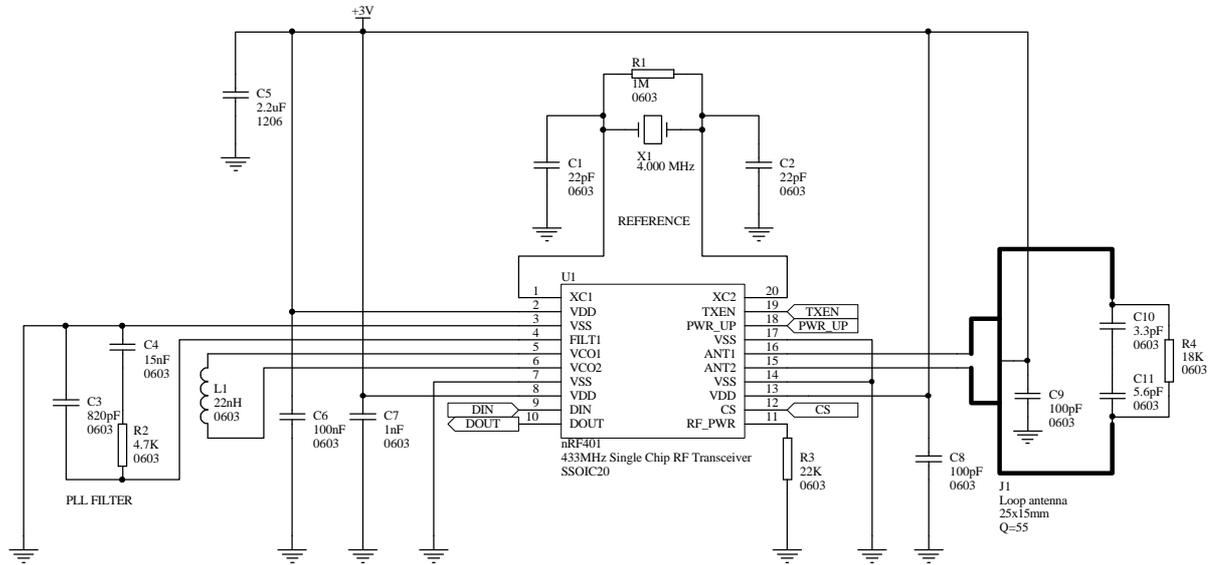

Figure 12. nRF401 application schematic.
Figure 12 shows a typical application schematic with a differential loop antenna on a Printed Circuit Board (PCB). The output stage (PA) consists of two open collector transistors in a differential pair configuration. VDD to the PA must be supplied through the collector load. When connecting a differential loop antenna to the ANT1/ANT2 pins, VDD should be supplied through the centre of the loop antenna as shown in Figure 12.
The synthesiser loop filter is an external, single-ended second order lag-lead filter. The recommended filter component values are: C3 = 820 pF, C4 = 15 nF, and R2 = 4.7 kΩ, see Figure 12.
C1 and C2 are 0603 SMD capacitors as shown in the application schematic, see Figure 12 and Table 9. C_{PCB1} and C_{PCB2} are the layout parasitic capacitance on the circuit board.
Figure 13 shows a PCB layout example for the application schematic in Figure 12. A double-sided FR-4 board of 1.6mm thickness is used. This PCB has a continuous ground plane on the bottom layer. Additionally, there are ground areas on the component side of the board to ensure sufficient grounding of critical components. A large number of via holes connect the top layer ground areas to the bottom layer ground plane. There is no ground plane beneath the antenna.